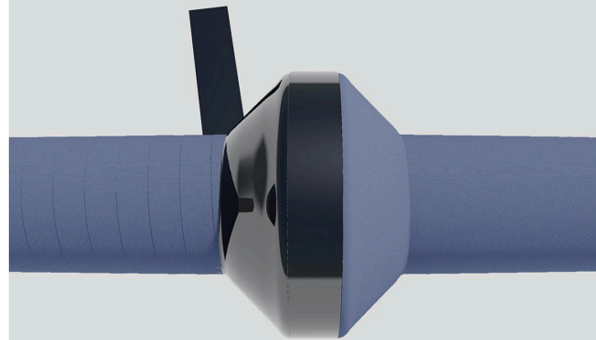

FIG 6
- Start wrapping the Outer Wrap on the flange rim to one side and wrap downward with a 75% overlap. (Fig 6).